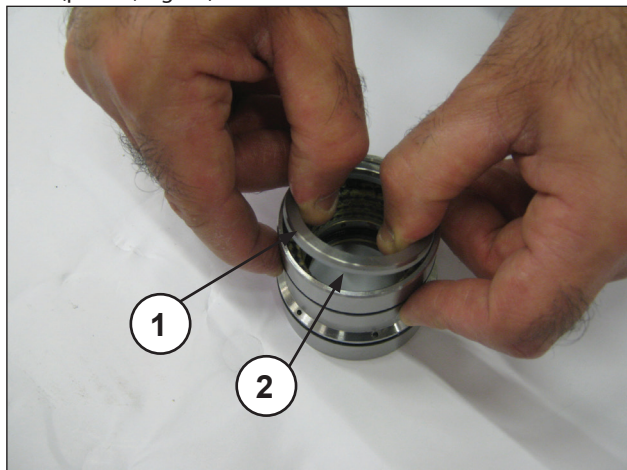
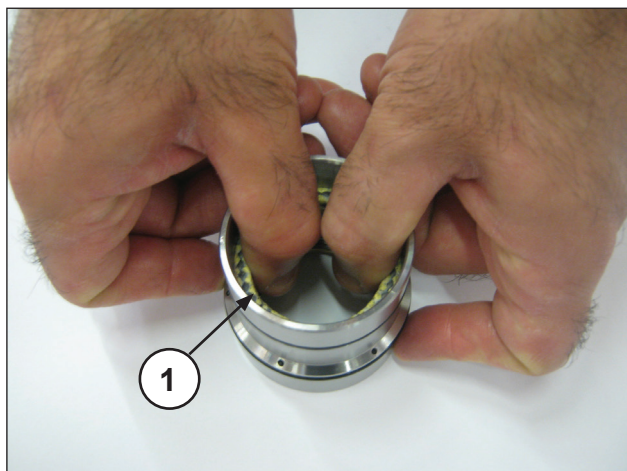

Fig. 48
Fig. 49
Separate the seal support from the liner, remove the spring ring and scraper ring (pos. ①②, Fig. 48) to access the pressure seals (pos. ①, Fig. 49).